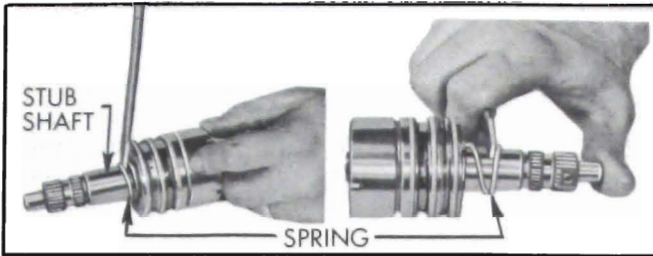

Figure 8-43—Removing Valve Spool Spring
2. Remove valve spool spring by prying on small coil with a small screw driver to work spring onto bearing surface of stub shaft. See Figure 8-43. Slide spring off shaft. Be very careful not to damage stub shaft surface.